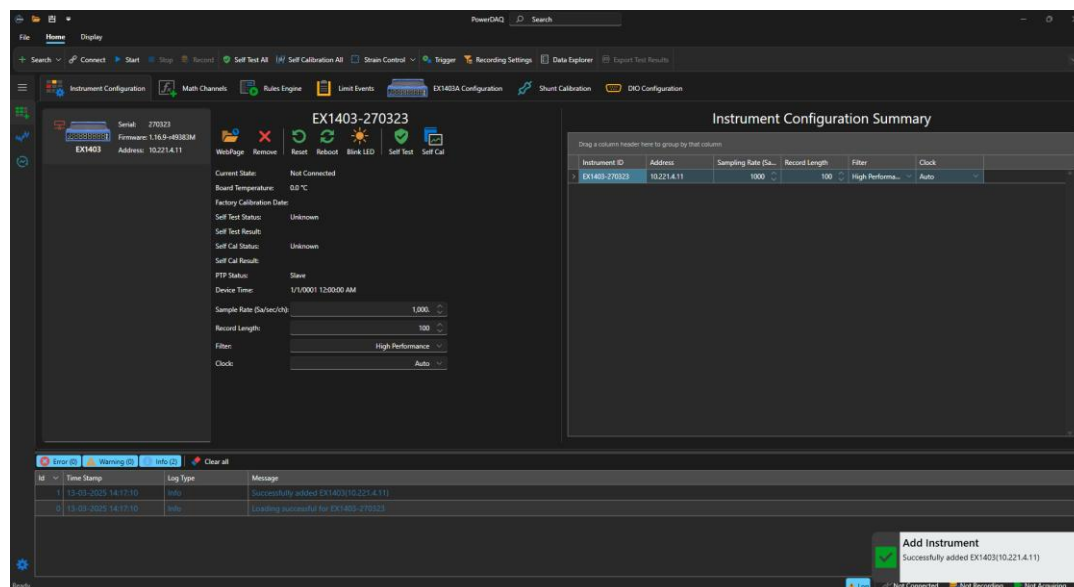

Figure 18. Instrument Added
- The newly added instrument will appear in the Instrument Configuration Summary as shown in Figure 18.